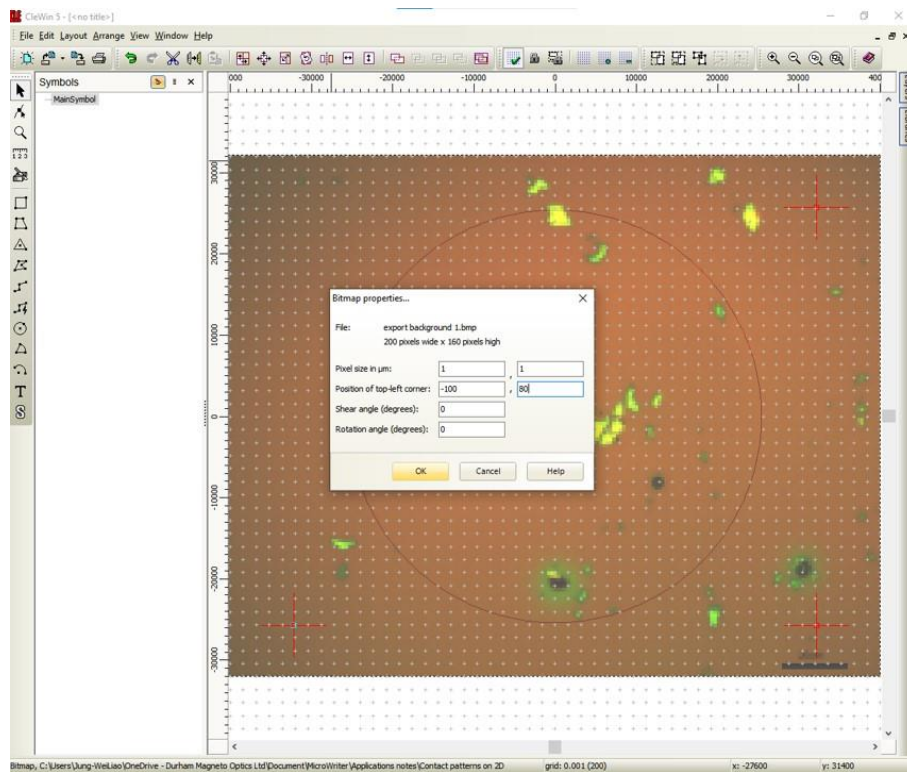

Figure 7 Set the pixel size and the position of the top left corner of the imported bitmap file in Clewin.
- d. Set the pixel size and the position of the image: Double click on the imported image. In the “Bitmap properties...” window, enter the pixel size and the position of the top-left corner (Figure 7).